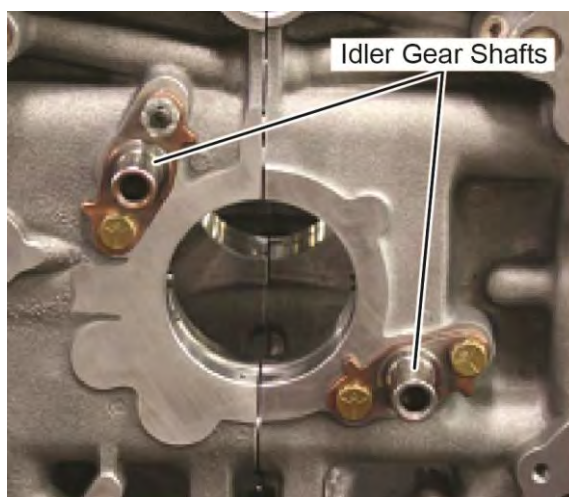
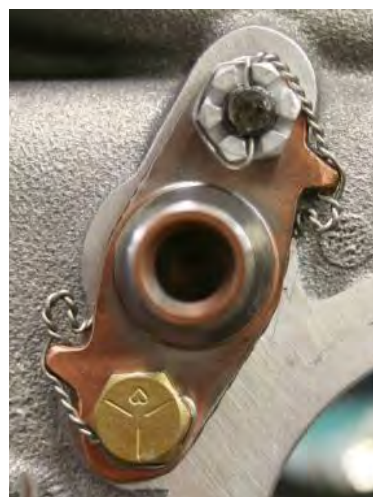

Figure 48
Figure 49
- A. Install the crankshaft idler gear shaft (for the left idler gear) in the crankcase with a nut and bolt (Figure 48). Torque the bolt to 17 ft.-lb. (23 Nm). Torque the nut to 12 ft.-lb. (16 Nm). Safety wire the nut and bolt as shown in Figure 49.
- B. Install the crankshaft idler gear shaft (for the right idler gear) in the crankcase with two bolts (Figure 48). Torque the bolts to 17 ft.-lb. (23 Nm). Safety wire the two bolts.